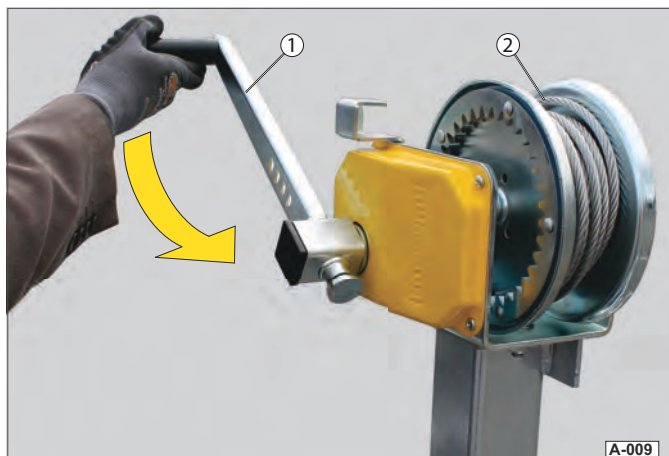

Fig. 9 Rolling up cable / pulling up load
- ▶ Turn the crank handle (Fig. 9 /1) clockwise - the cable is wound up.